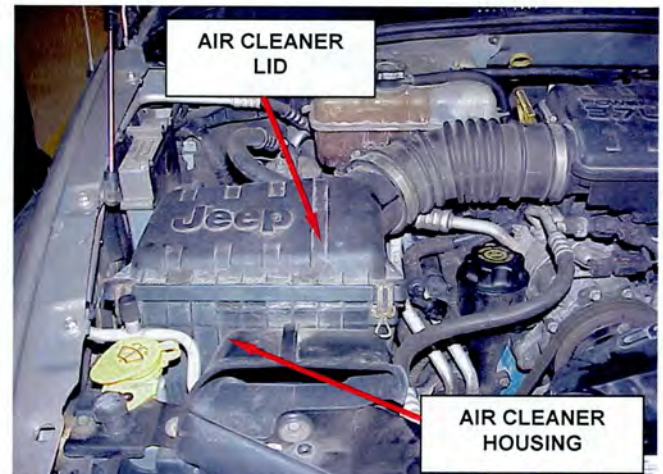

Figure 2 – Remove Air Cleaner Assembly
8. Remove the engine air cleaner lid and air cleaner housing (Figure 2).
26. Install the engine air cleaner housing and lid (Figure 2).